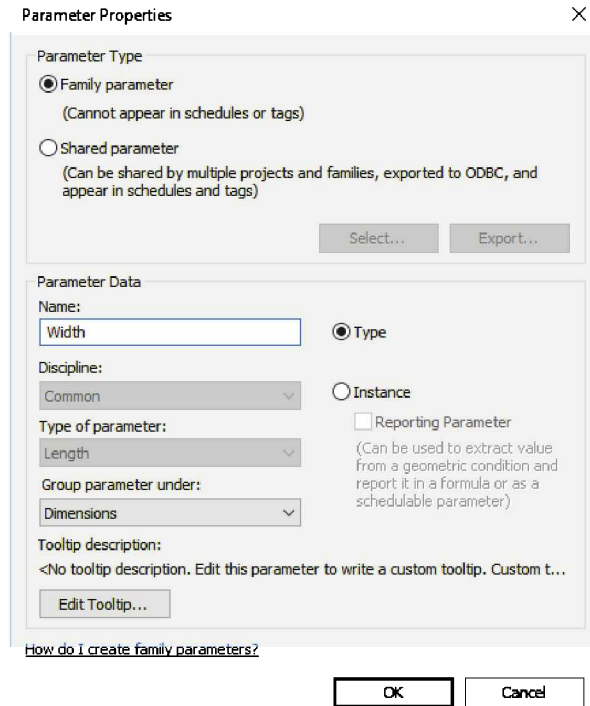

FIGURE 15-3.5 Creating the *Width* parameter
The information on creating parameters, covered on the previous two pages, can now be put to use. Notice, in Figure 15-3.5, that the *Discipline* and *Type* of *Parameter* have been automatically selected because there are no other options when tying a parameter into a dimension. Therefore, creating a parameter for a dimension using this method saves a little time.
7. Enter the following in the *Parameter Properties* dialog (Figure 15-3.5):